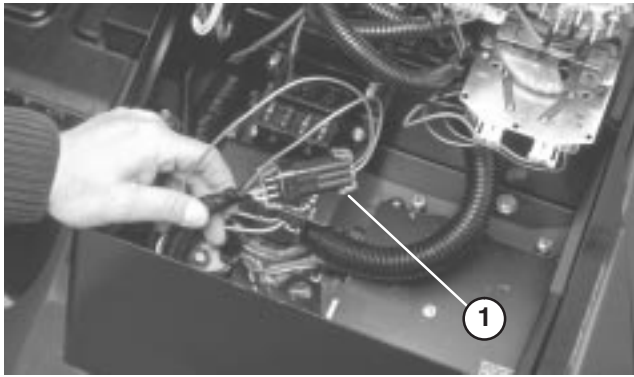

Figure 38
2. Open control panel cover. Locate wire harness and connectors near controller (Fig. 38). Carefully unplug loop back connector from harness connector.